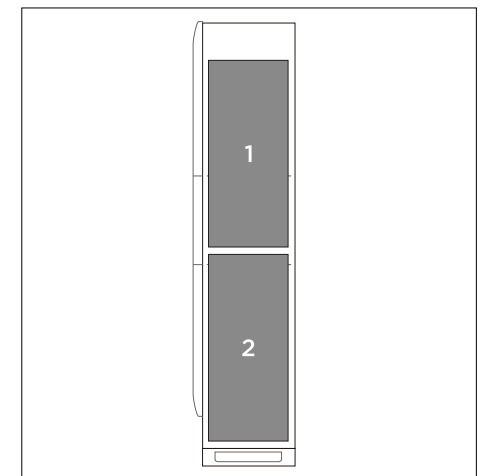

Figure 8: Inside view of BCL0096 with two GoodWe SECU-A batteries.
1. Insert the batteries onto the shelves one at a time by inserting the battery pack bottom first into the cabinet. Please fill the cabinet from bottom to top, insert battery 2 first, then 1 (see figure 8).